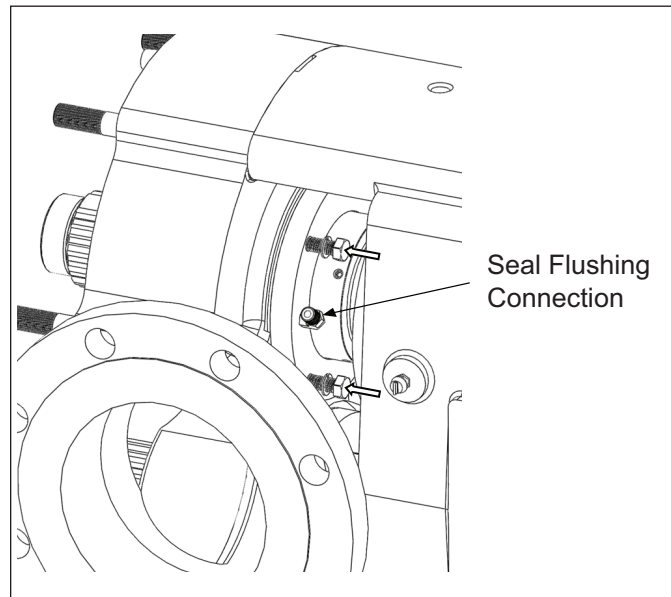

Figure 66. Installing Seal Gland and Flushing
2. Place the seal glands and outer gaskets in the orientation shown in Figure 66 and secure with locknuts and cap screws. Rotate the shafts to make sure there is no interference with the seals.